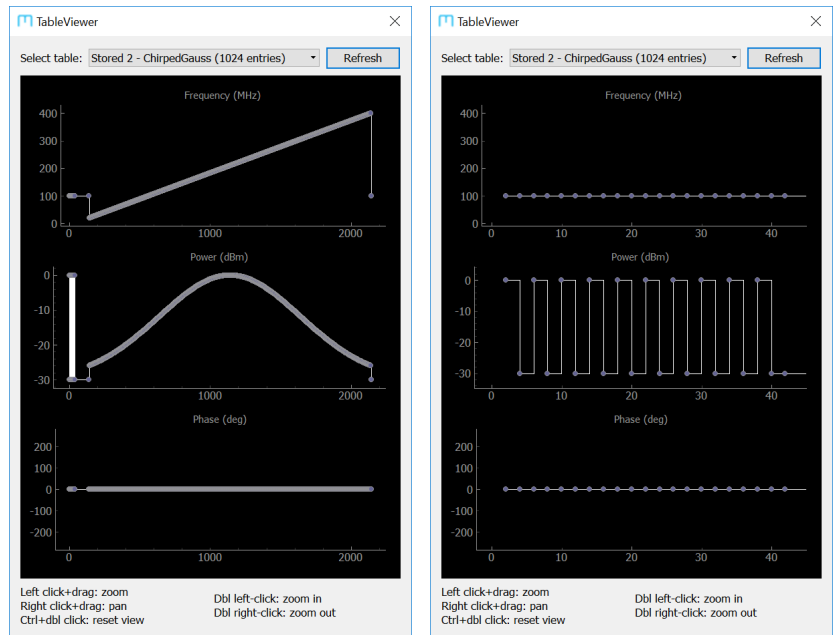

**Figure 4.7:** Diagnostic information about the connected XRF unit, which should be sent to MOGLabs for analysis if there is a problem with the device.
**Diagnostics** Queries the unit for diagnostic information, which may be useful in assessing issues with the functionality of the XRF (Figure 4.7). When encountering a problem with the device, please run the diagnostics and click *save results*, then send the resulting text file and a description of the problem to MOGLabs for analysis.